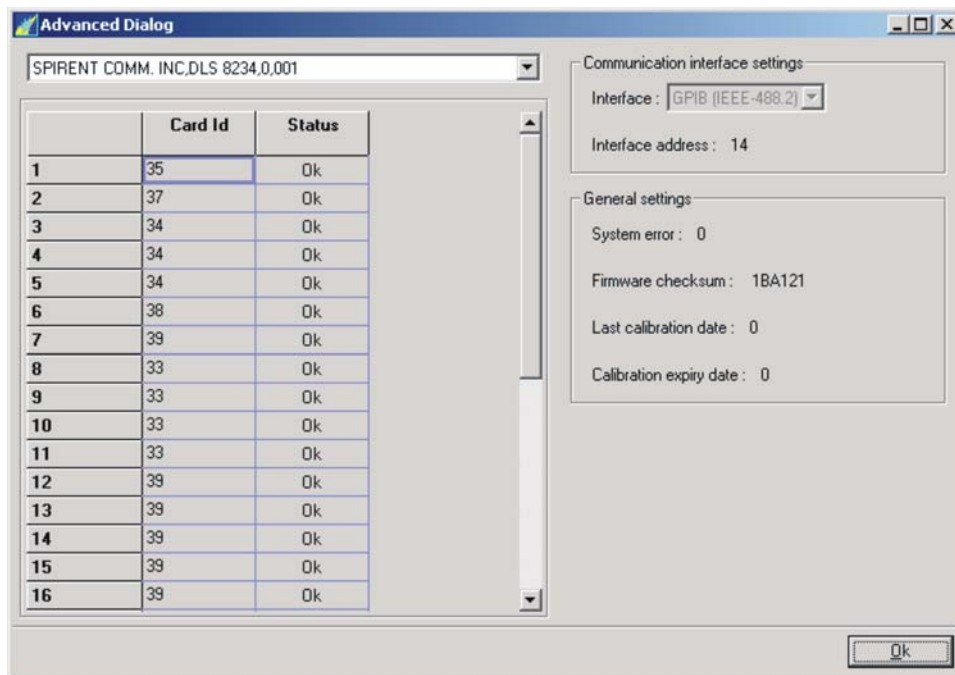

Figure 3-7 DLS-8234 Advanced Dialog property sheet
- Step 7:** When the Agilent 4395A normalization is complete, a dialogue box tells you to make appropriate connections for compensation measurements (*Figure 4-6*). Use *Figure 3-6* and *Figure 3-7* as a reference. When the connections have been made, click the **OK** button. The compensation process begins.